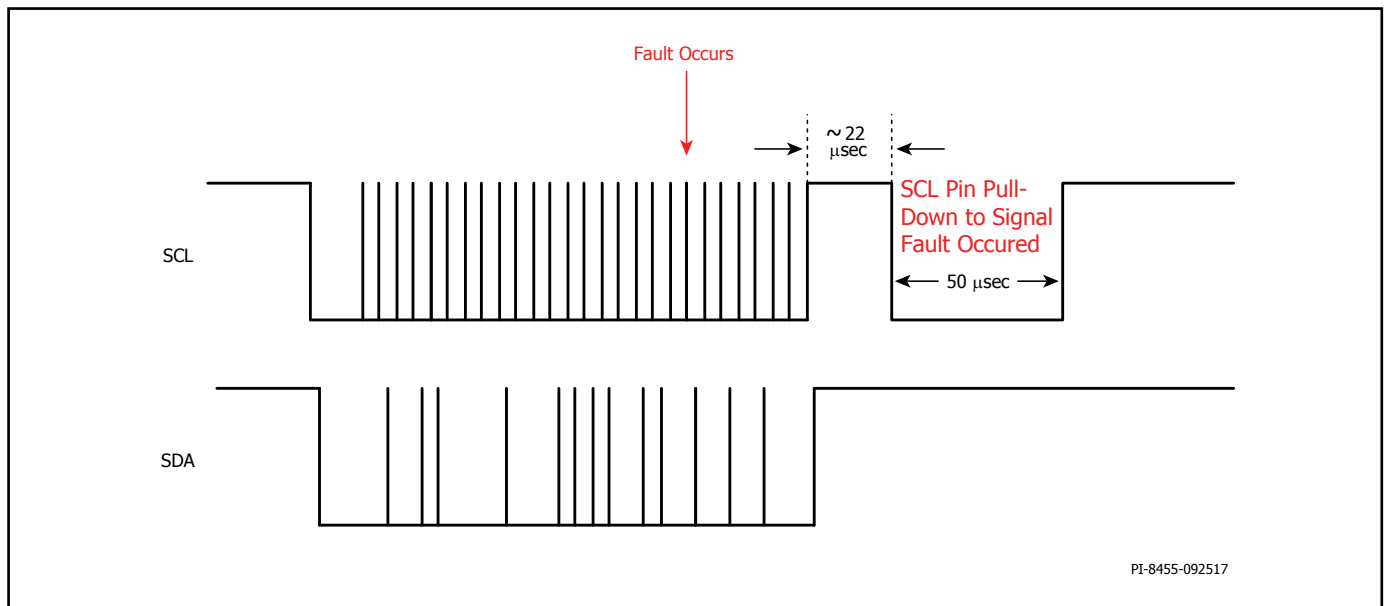

Figure 20. Interrupt Mask During Active I²C Transaction.
2. When the SCL pin is busy (active I²C transaction) (see Figure 20), the fault interrupt will wait for the I²C transaction to be completed, wait ~22 μsec and then pull down the SCL line for 50 μsec (minimum) then releases it back to HI State.